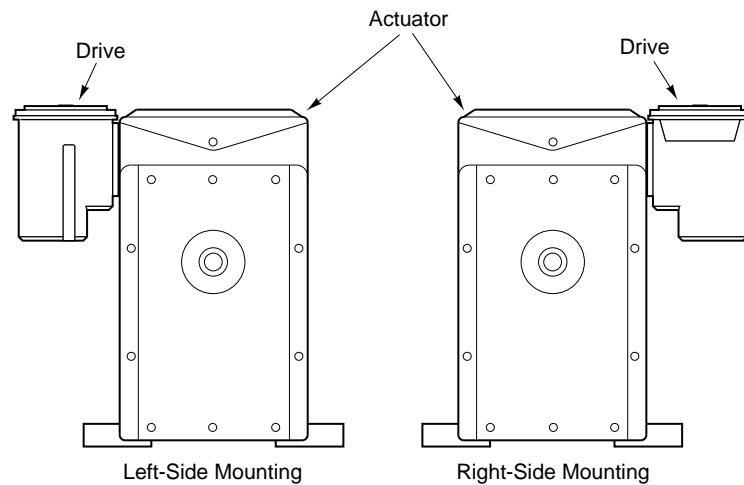
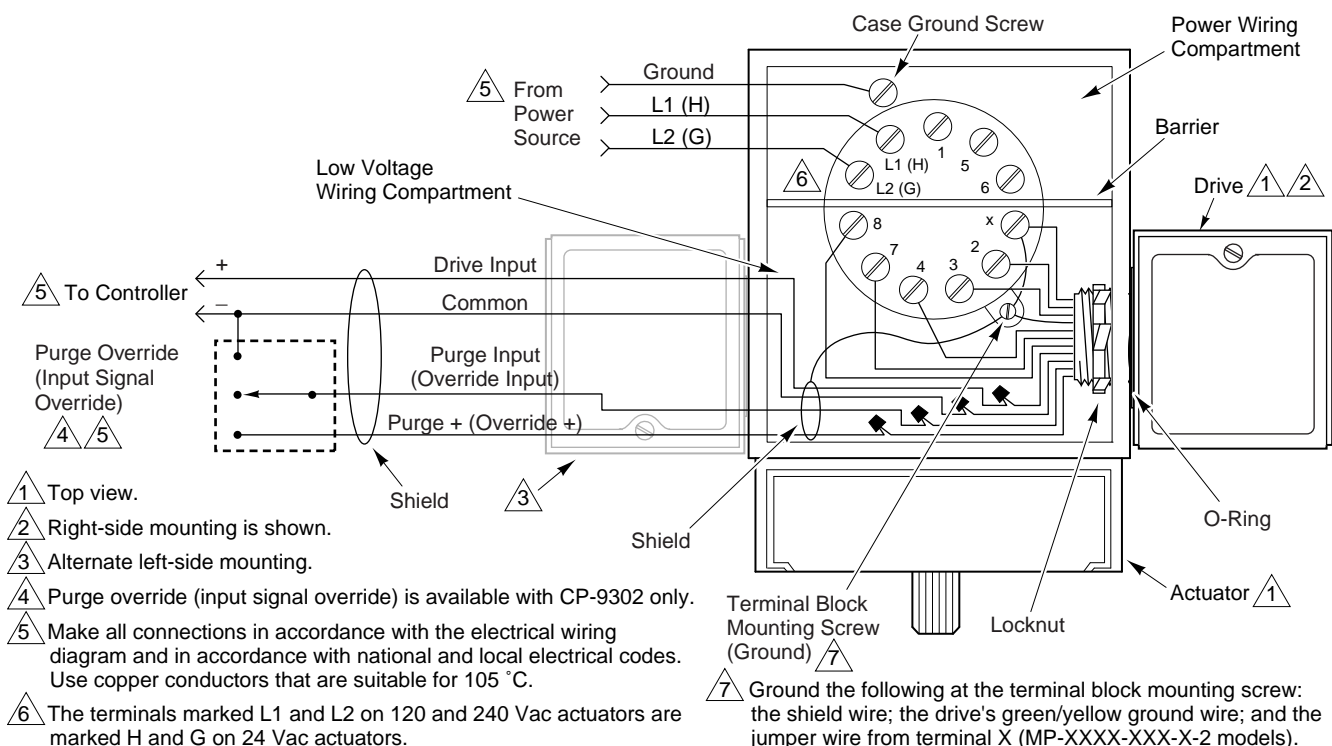
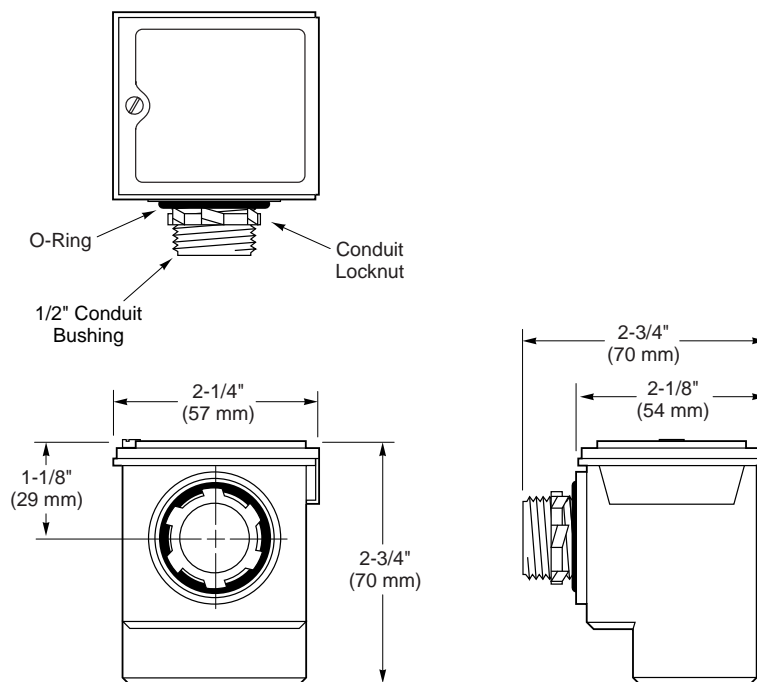

Figure-5 Mounting Position of Drive on Actuator.
Figure-6 Actuator/Drive Wiring and Mounting Arrangement.
Figure-10 Mounting Dimensions of CP-9301 and CP-9302 Electronic Actuator Drives.
2. Determine on which side of the actuator the drive is to be mounted (Figure-5, Figure-6, and Figure-10). Remove the knockout on that side, adjacent to the low voltage wiring compartment.
3. Temporarily remove the locknut from the drive. Verify that the O-ring (Figure-6 and Figure-10) is fully seated on the drive's casing, and insert the drive's 1/2" conduit connector into the opening from which the knockout was removed.
4. Secure the drive to the actuator with the locknut removed in step 3. Refer to Figure-6.